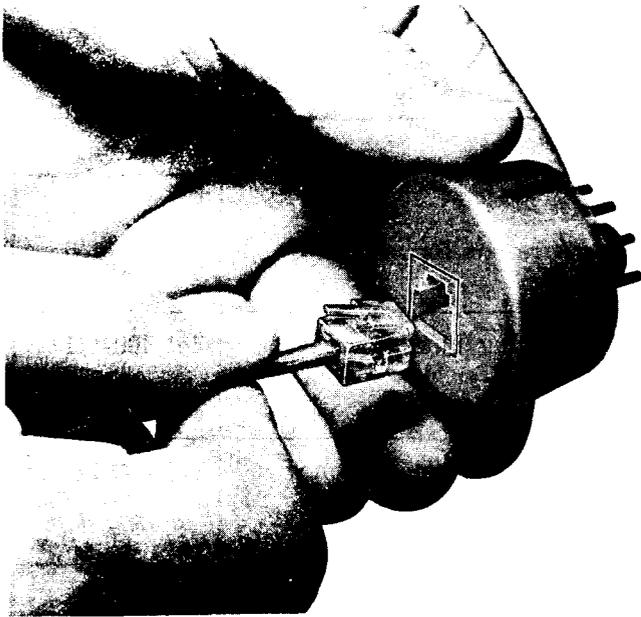

Fig. 1—224A Adapter
**2.01** The 224A adapter (Fig. 1) is used to adapt a modular telephone set to work in a 12-pin jack.